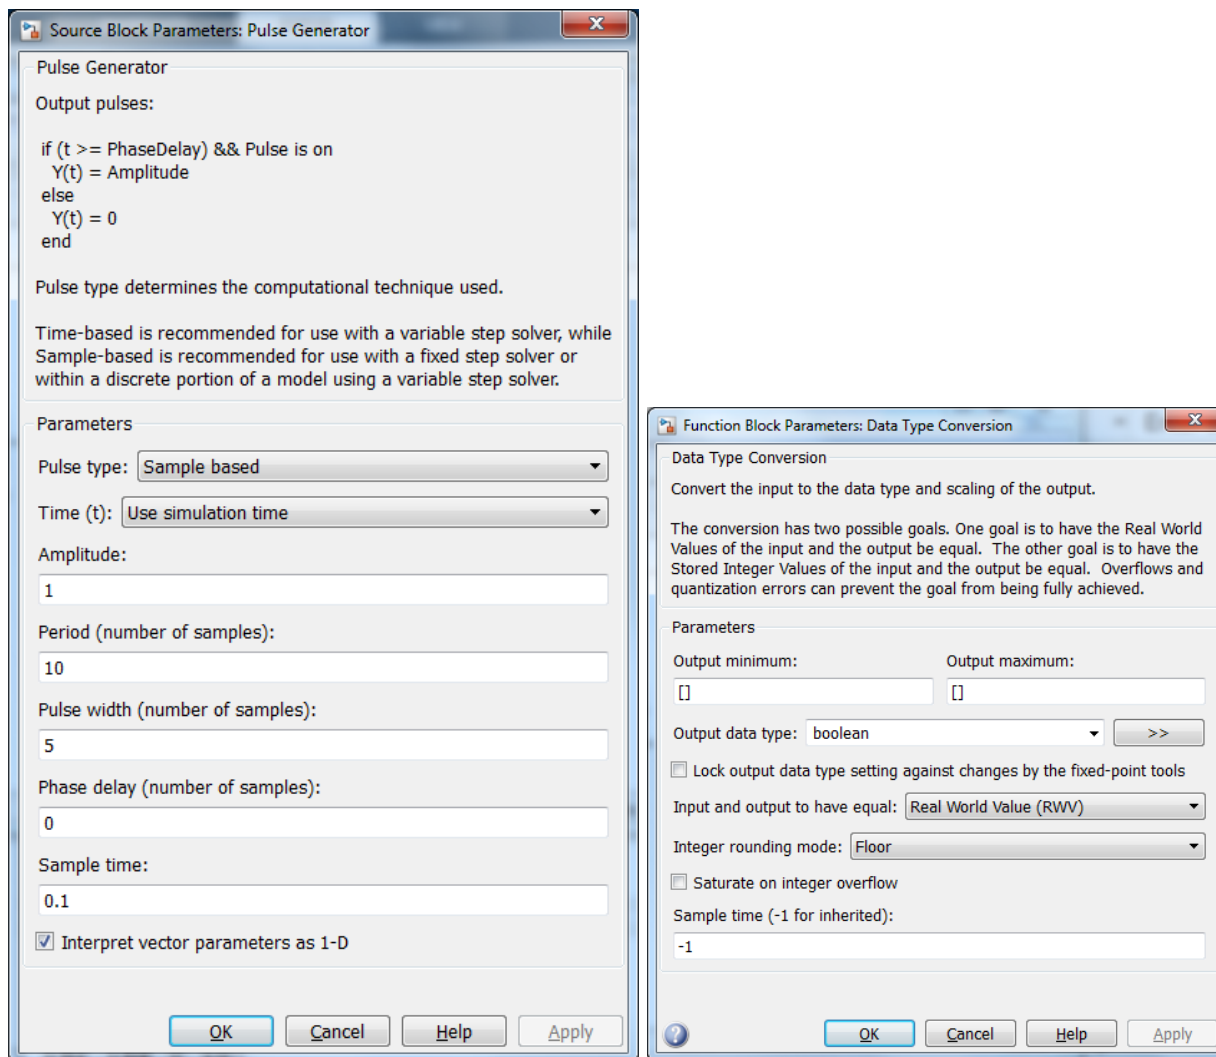

Figure 14: Block Settings for Pulse Generator & Convert blocks for BlinkLED1.slx model
- After configuring the **Pulse Generator**, **Convert** and **LED** blocks according to the settings in the table above, their dialog boxes should look like **Figure 14**: